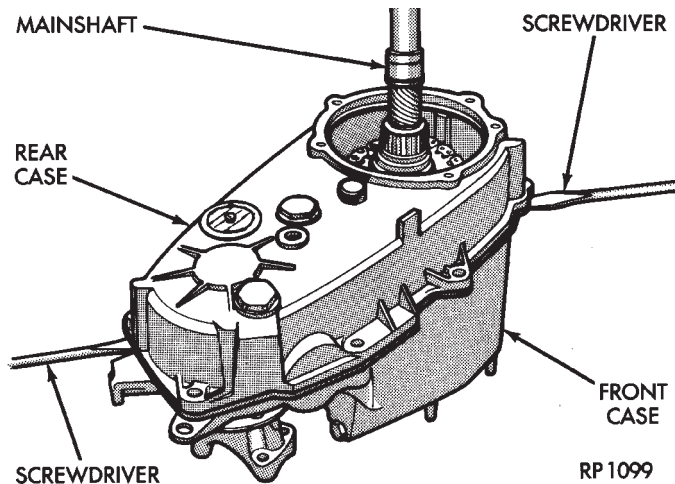

Fig. 18 Loosening/Removing Rear case
(13) Remove rear case from front case (Fig. 18). Insert screwdrivers into slots cast into each end of case. Then pry upward to break sealer bead and remove rear case.